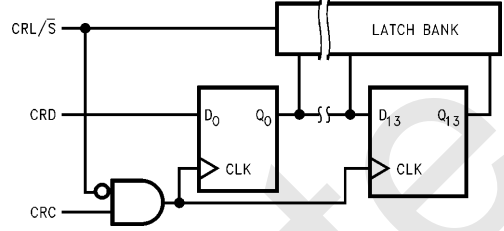

FIGURE 11. CTRL Register Block Diagram
The control register is comprised of a fourteen-bit serial shift register and a fourteen-bit latch (Figure 11). Information is strobed into the shift register via the CONTROL REGISTER DATA (CRD) input on the positive edge of the CONTROL REGISTER LATCH/SHIFT BAR (CRL/S) pin at a logical low state. The information is parallel transmitted to the latch bank and the ENDEC when the CRL/S input is taken to a logical high state. The control register truth table (Table I) describes the functions controlled by each bit in the control register. The bit at the right of each bit stream (13) in the table is the first bit entered into the shift register.